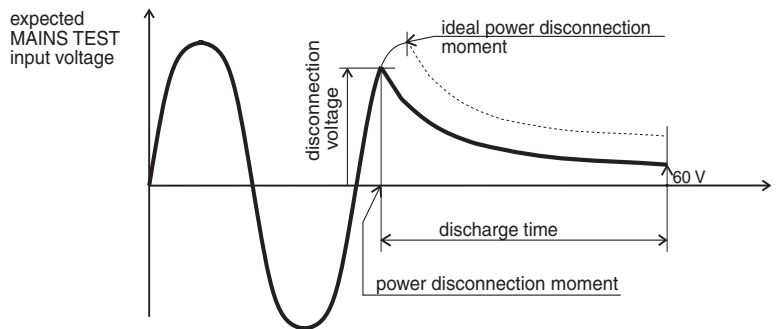

Fig.20. Voltage on MAINS TEST input
- The actual voltage is displayed during the measurement, and the disconnection voltage (see fig.20) is displayed when the measurement is finished.